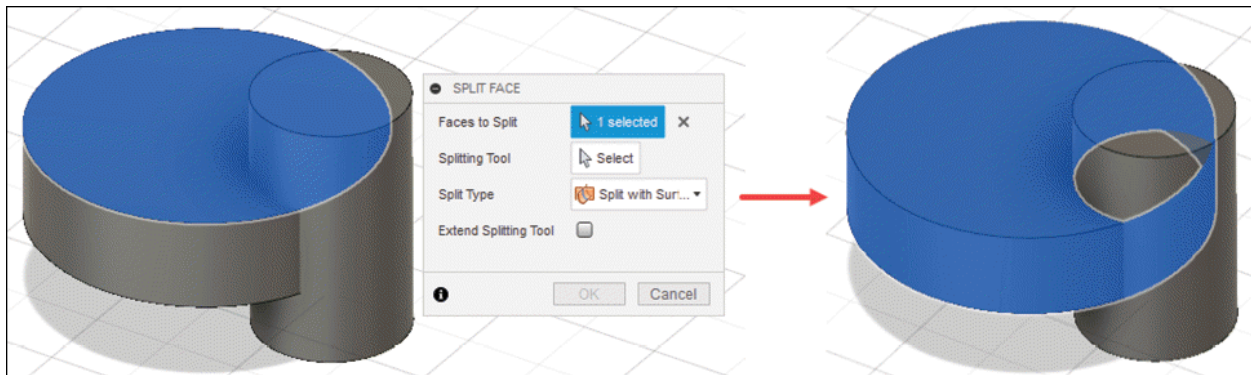

Figure-44. Preview of split face
- After specifying the parameters, click on **OK** button from **SPLIT FACE** dialog box to finish the process; refer to Figure-44.